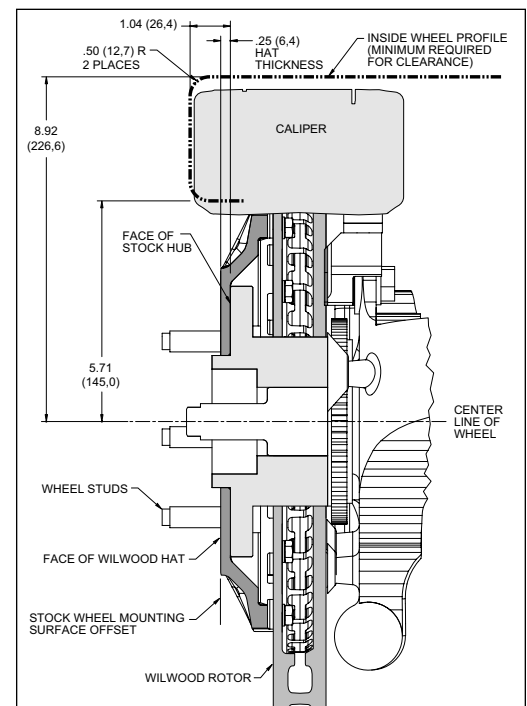

Figure 2. Wheel Clearance Diagram
Before any tear-down or disassembly begins, review the wheel clearance diagram, Figure 2, next page to verify that there is adequate clearance with the wheels you will be using with this installation.
- Verify your wheel clearance using Figure 2.